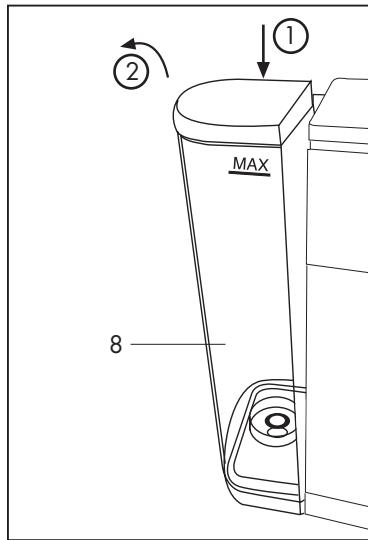

Fig. 1
- To extract the tank {8}, press it down and turn it outwards at the same time **(Fig.1)**